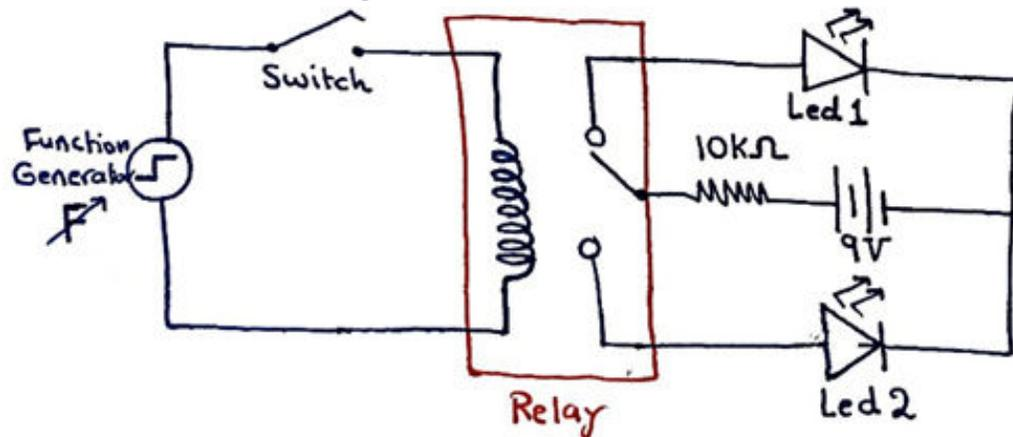

Figure 11: Relay switching speed circuit
- 1) Connect the circuit shown in figure 11.